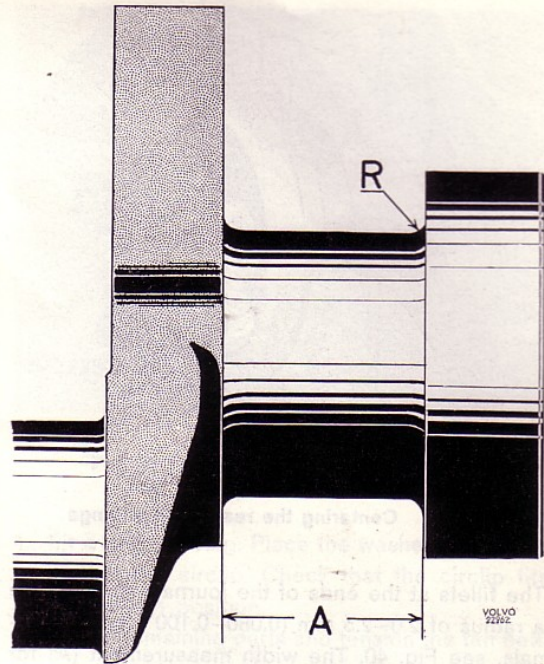

Fig. 40 Bearing journal
The fillets at the ends of the journals should have a radius of 2.0–2.5 mm (0.080–0.100") on all journals, see Fig. 40. The width measurement (A) for the pilot bearing depends on the size of the journal and should be ground in order to obtain the correct measurement.